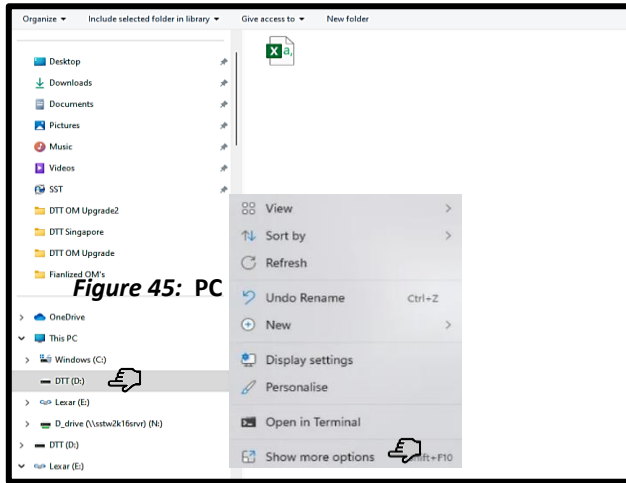

Figure 43: PC
5. Click on D: icon shown on Figure 43.